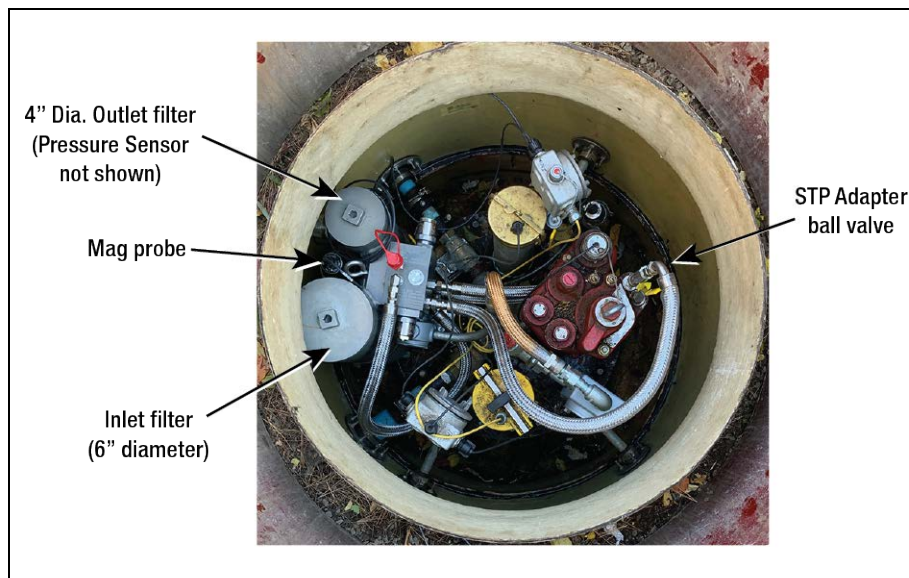

Figure 1. HydrX Sump
1. Close the STP Adapter ball valve to isolate the Fuel Conditioner unit from the pump (see Figure 1).
3. Remove filter and set aside. Allow fluid in the Outlet Filter housing to drain below the level of the Pressure Sensor before proceeding. (The Pressure Sensor port is in the back side of the Outlet Filter housing and is not visible in Figure 1.)
11. Re-open the pump STP Adapter ball valve (see Figure 1).